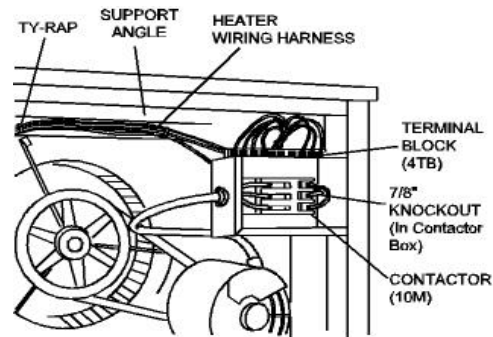

FIGURE 4 : CONTACTOR BOX & HARNESS SUPPORT
16. Add a conduit fitting (field-supplied) to the power access opening in the rear panel of the heater cabinet per Figure 4.